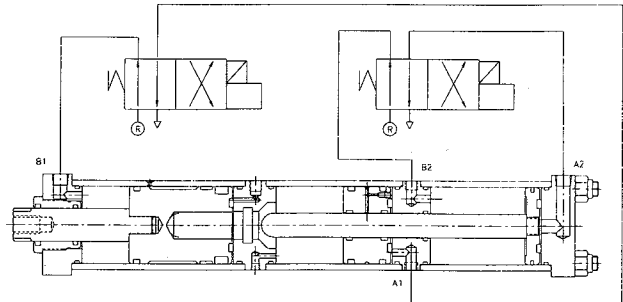

Fig. 8.0.1
HyperCyl control circuits are similar to two, (2) typical air cylinders, with one cylinder extending before the other, and both retracting at the same time, (see Fig. 8.0.1). Each HyperCyl cylinder requires two, (2) pneumatic directional control valves for operation. Pneumatic directional control valves can be either mechanical, solenoid or remote air piloted. Valve size must be of suitable flow to permit proper cylinder function, (refer to catalog for cylinder air consumption).